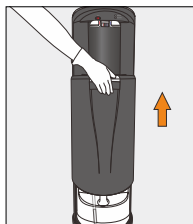

Figure 14
1. Open Dispenser door (Figure 14). (Slide door upwards to allow access to bottle area)